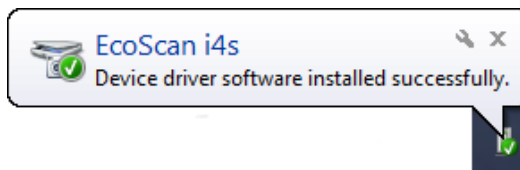

Fig. 9
- d) When the software has been successfully installed, a message will appear in your system tray (Fig.9).